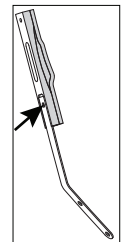

Figure 8
3. Remove the bolt on the brake pad with a 3 mm hex key (Figure 8).